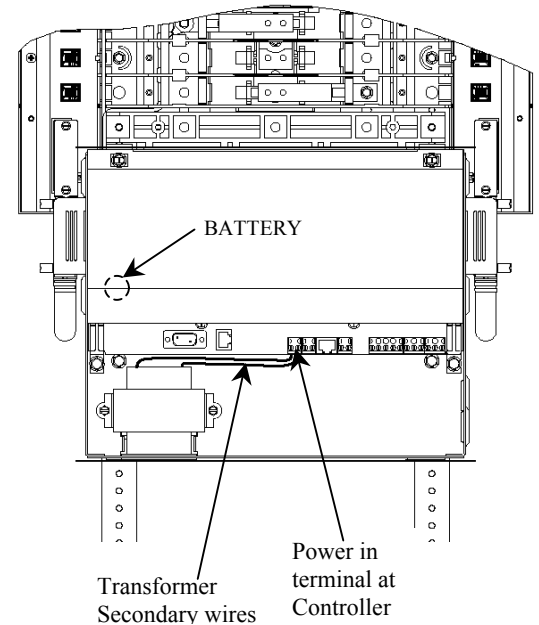

FIG 1
3. Lift up to unplug the Power in terminal at controller see fig 1. Also disconnect all the communication ports such as Ethernet etc to the controller.